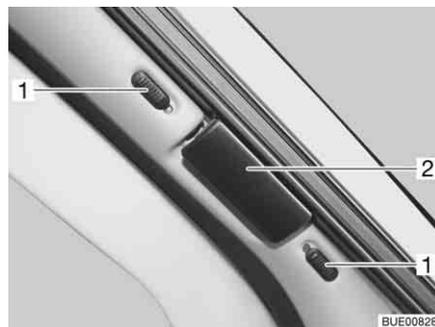
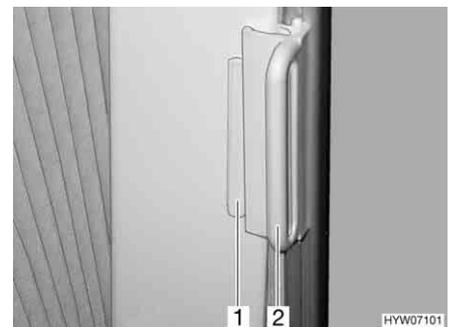

Fig. 65 Roman shade for the windscreen
Fig. 66 Roman shades for driver's window and front passenger's window
- On the Roman shade for the windscreen, push the locking knobs (Fig. 65,1) upwards or downwards. If the red dot is visible, the lock is open.
- Grasp the handle (Fig. 65,2 and Fig. 66,2) of the Roman shades and draw carefully until the magnetic catch keeps the Roman shades closed.
- On the Roman shades for the driver's and passenger's window, push the handle (Fig. 66,2) onto the cap (Fig. 66,1). The Roman shade is secured.